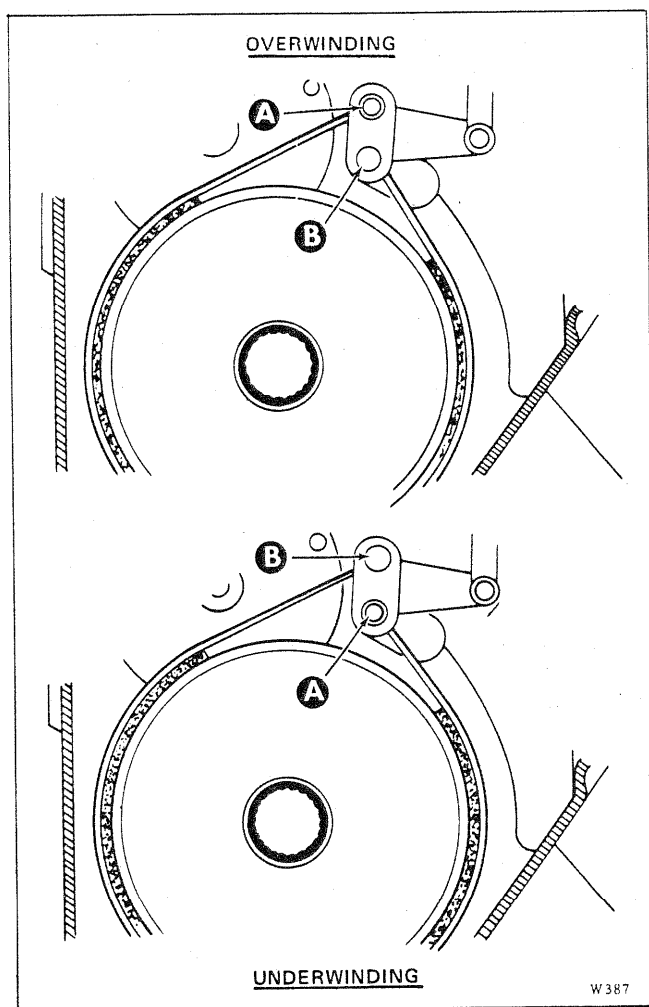

FIGURE 4-7. BRAKE BAND OVERWIND AND UNDERWIND ARRANGEMENT
a. Brake Band. (See Figure 4-7.) Change the anchoring end of the brake band by changing the positions of pins **A** and **B**.
- a. **Brake Band.** (See Figure 4-7.) Change the anchoring end of the brake band by changing the positions of pins **A** and **B**.